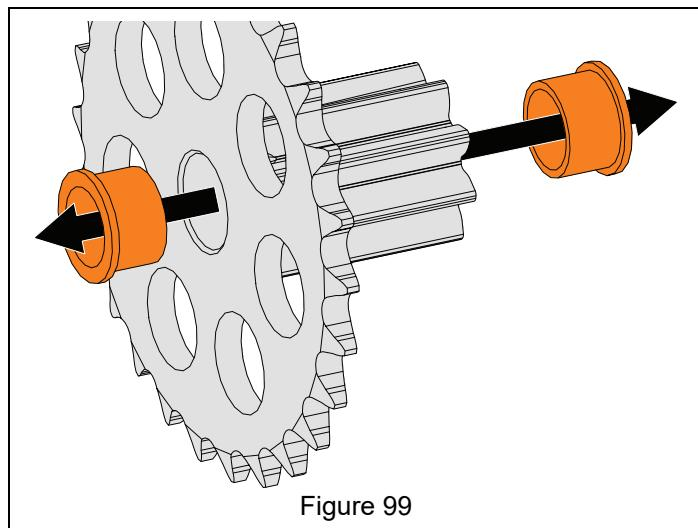

Figure 99
8. Remove flange bushings from pinion gear. Bushings are press fit so may be difficult to remove. See Figure 99.